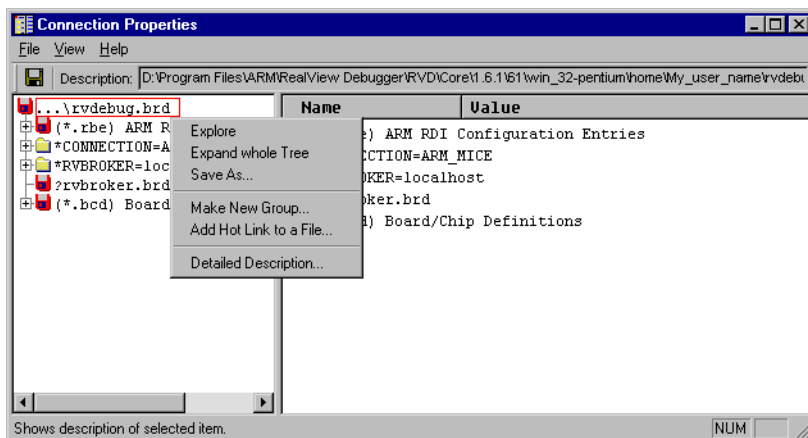

Figure 4-11 Defining a target board
3. Select **Make New Group...** from the menu, shown in Figure 4-11.